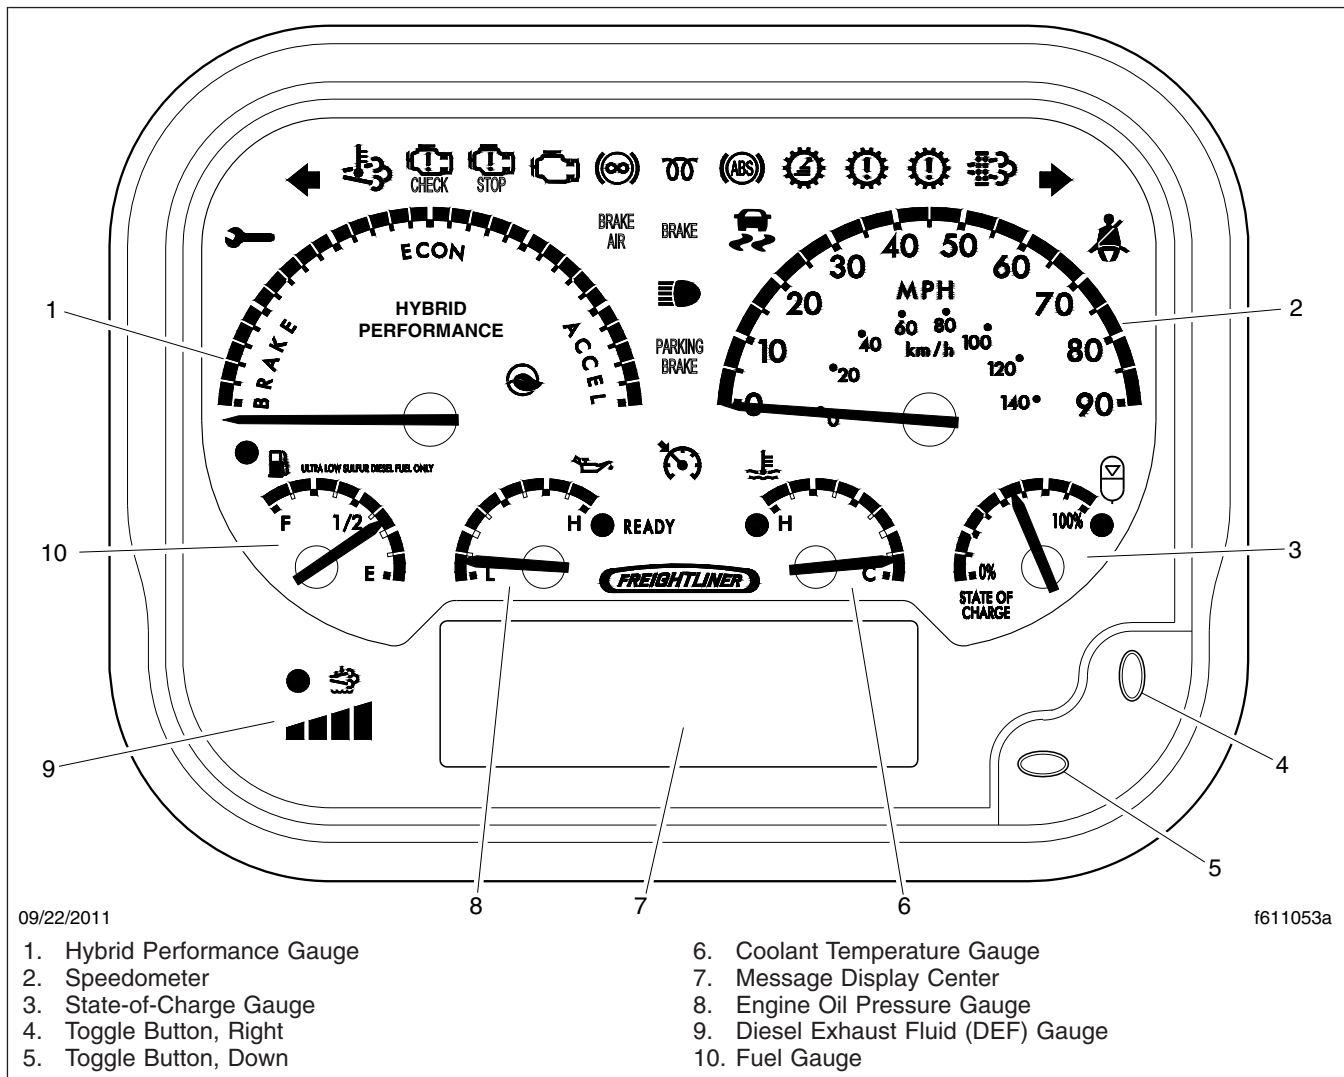

Fig. 16.10, Typical Ametek Instrument Panel (Hydraulic Hybrid), EPA10 and Newer Engines
The hybrid performance gauge and the state-of-charge (SOC) gauge are two hydraulic hybrid system gauges located in the instrument panel. See Fig. 16.10.
Van, the menu system is shown on the driver display screen once the self-test is finished. The menu system responds to input from the driver and remains active as long as the ignition is on. In order for the driver to operate the menu system, the ignition must be ON, and the park brake must be set (ON). The driver uses the toggle buttons to move from one menu screen to another. See **Fig. 16.10**, Item 4 and Item 5 for the location of the toggle buttons. See **Chapter 2, Instruments** for further information on the Ametek menu system.